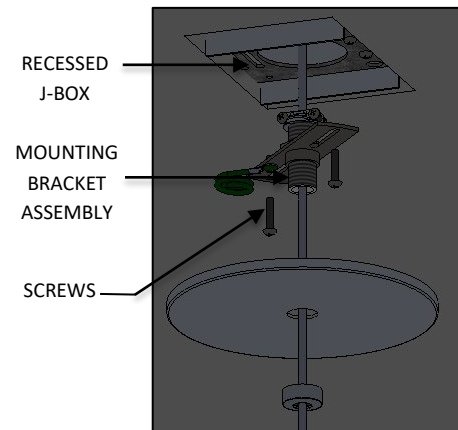

FIG. 28 – FINIAL ASSEMBLY
6. Raise MOUNTING BRACKET ASSEMBLY up to RECESSED JUNCTION BOX, and secure with the MOUNTING BRACKET SCREWS as shown in FIG.28.